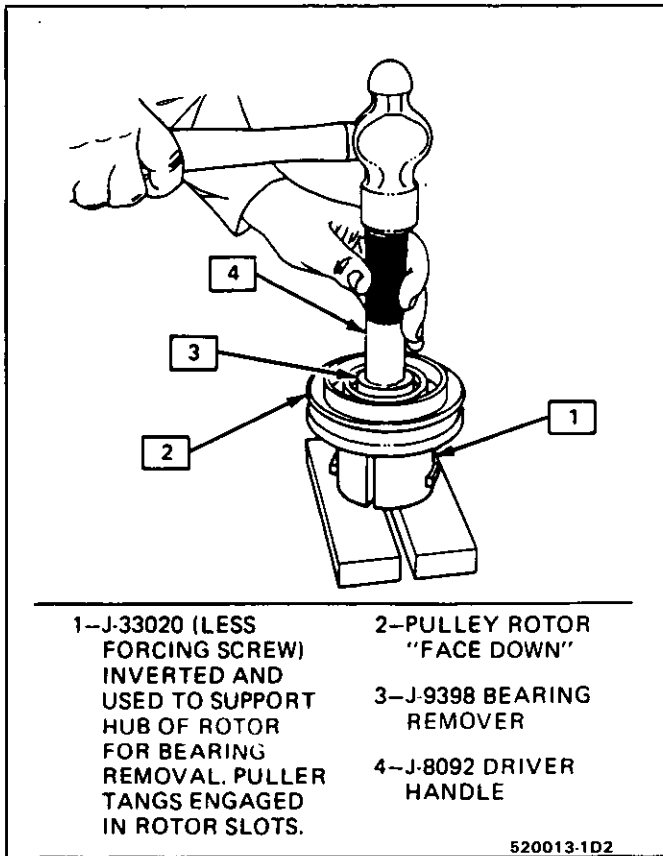

Fig. 13 Pulley Rotor Bearing Removal
- Drive the bearing out of the rotor hub with rotor bearing remover J-9398-A and J-29886 universal handle (Fig. 13).